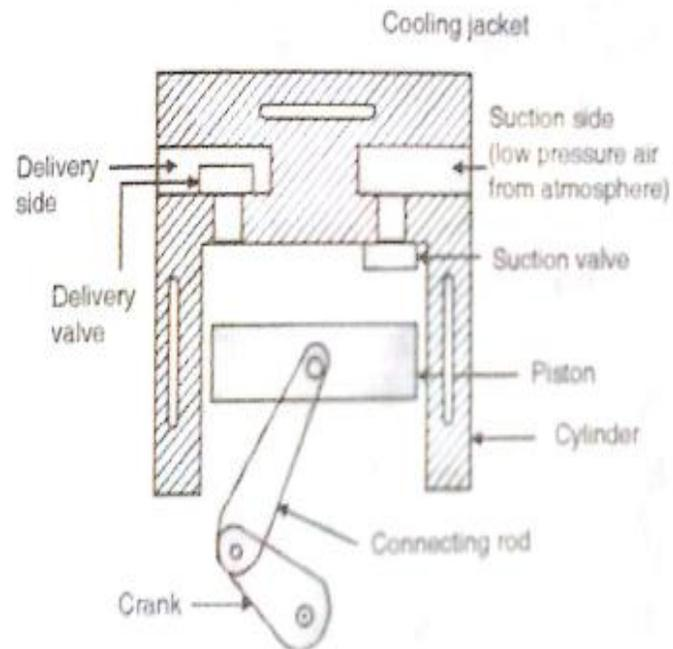

Fig. 3.1 : Single-stage single acting reciprocating air compressor
- The principal parts of a reciprocating air compressor are same as that of a engine. Fig. 3.1 shows the sectional view of an air-cooled single stage single acting reciprocating air compressor. Both suction